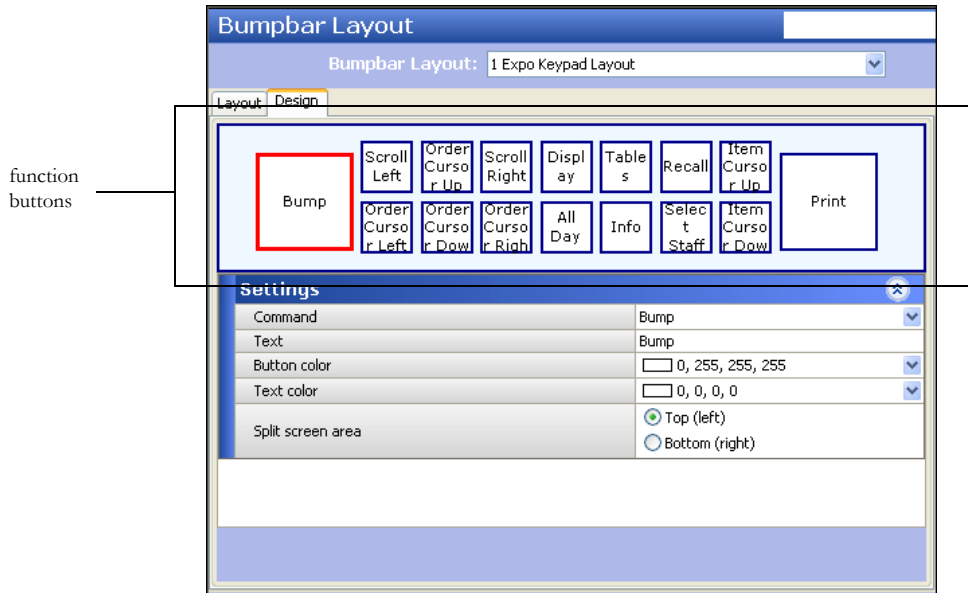
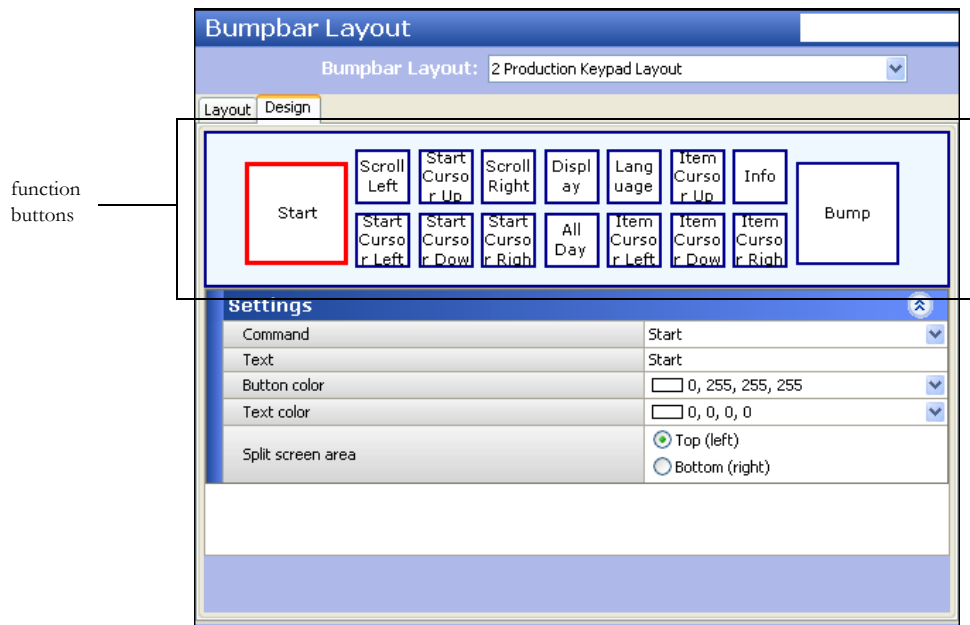

Figure 16 Bumpbar Layout - Design Tab (Expo)
Figure 17 Bumpbar Layout - Design Tab (Production)
- Click the **Design** tab. See Figure 16 for a basic bump bar layout for an expo station and Figure 17 for a basic bump bar layout for a production station.